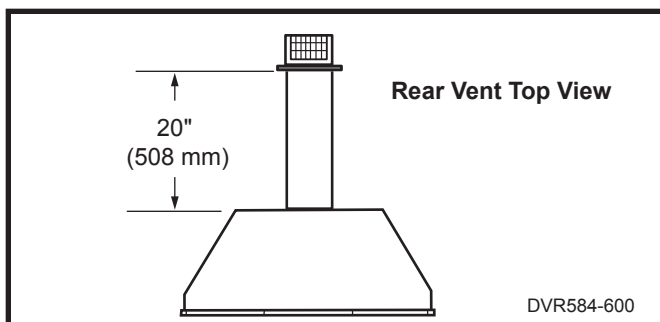

Fig. 21 Rear vent application, no elbows.
- The maximum horizontal distance between the rear of the appliance (or end of the transition elbow in a corner application) and the outside face of the rear wall is 20" (508 mm). (Fig. 21)